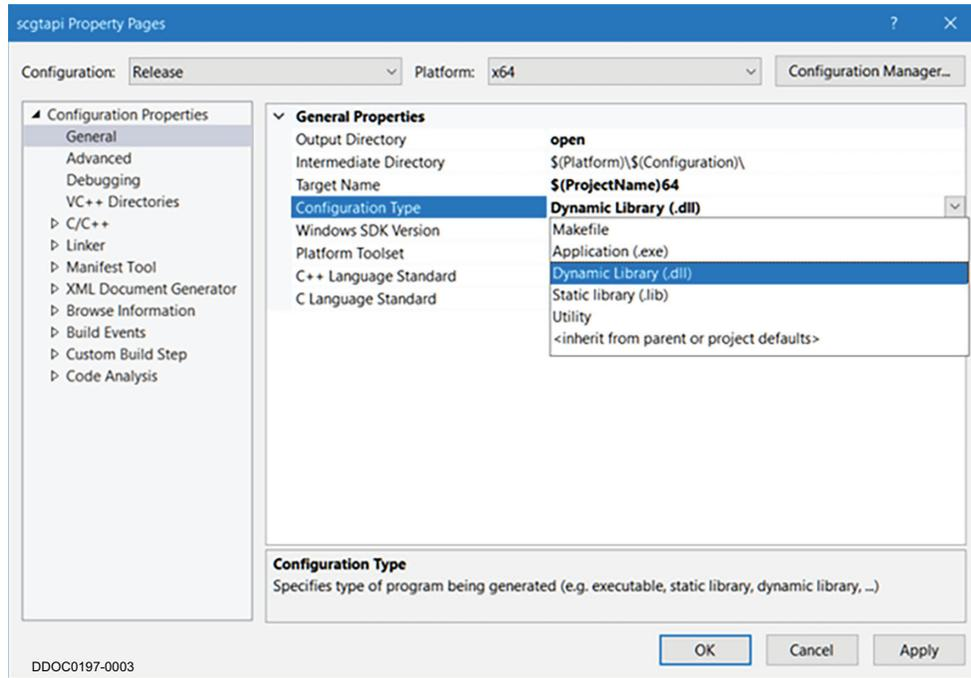

Figure B.4 Rebuild API by GUI
- d. From project property dialog select **general** tab (Figure B.4).